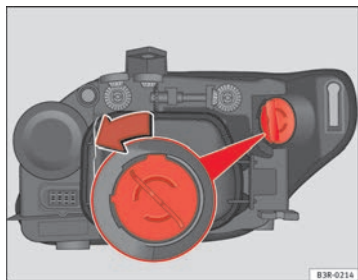

Fig. 217 DRL light
- Turn the bulb holder anti-clockwise, pulling it by the grip ⇒ fig. 217 and removing the bulb holder and the bulb.